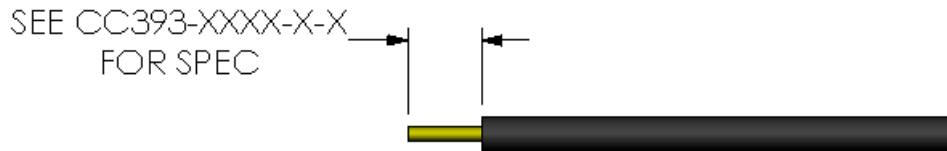

FIG 1
1. Strip the cable/wires according to FIG 1.